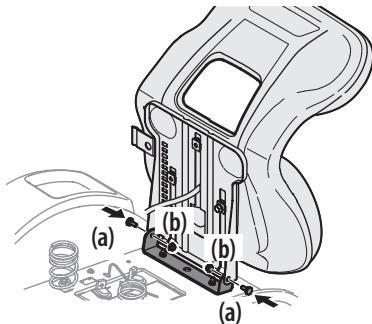

Figure 3
4. With the previously removed shoulder bolts (a) and flange lock nuts (b) secure one side of the seat and seat bracket. While supporting the seat, remove the Phillips screwdriver and secure the other side of the seat. Be careful not to crimp or damage the wire harness while installing the seat. See Figure 3. Torque to 84-103 in-lbs (9.5-11.6 N-m).